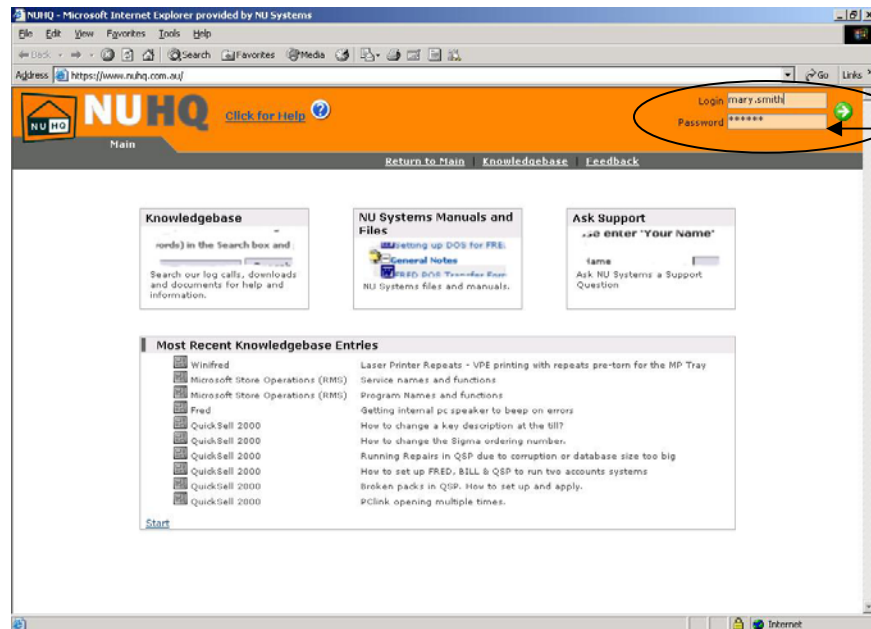

Figure 6: The Fred NUHQ Home Page
- If not already logged on, log onto to **Fred NUHQ**, refer to Figure 6